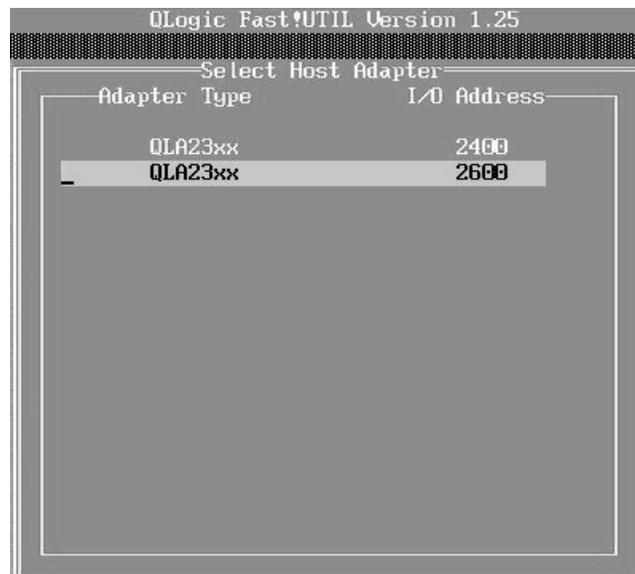

Figure 10-38 Configure boot device: Secondary path
2. Select port 2 of the FC HBA @2600 I/O address, as shown in Figure 10-38.